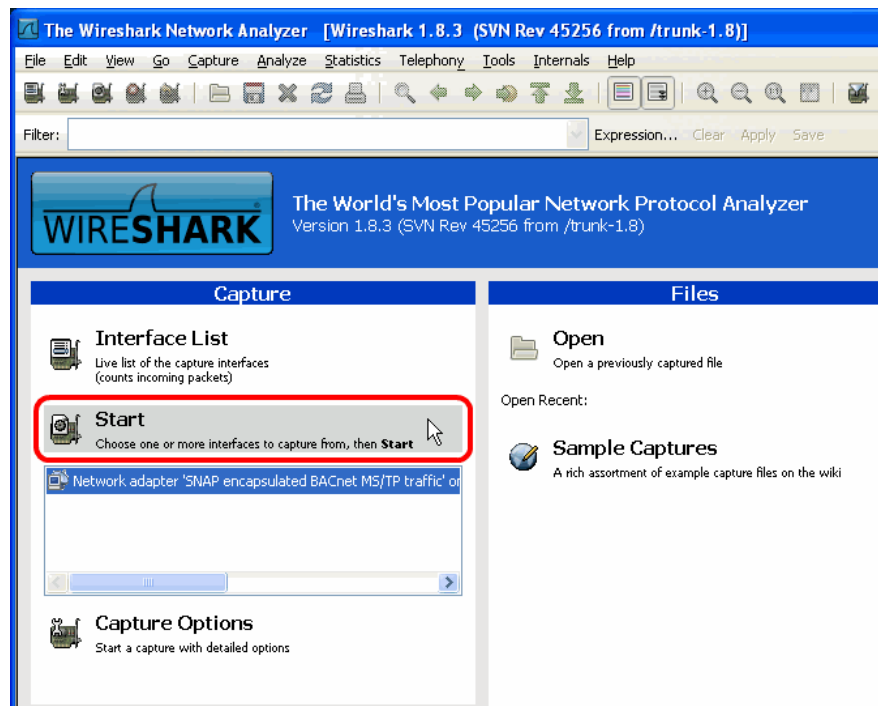

Figure 307: Start Remote Capture in Wireshark.
2. Click the **Start** button as shown in Figure 307.